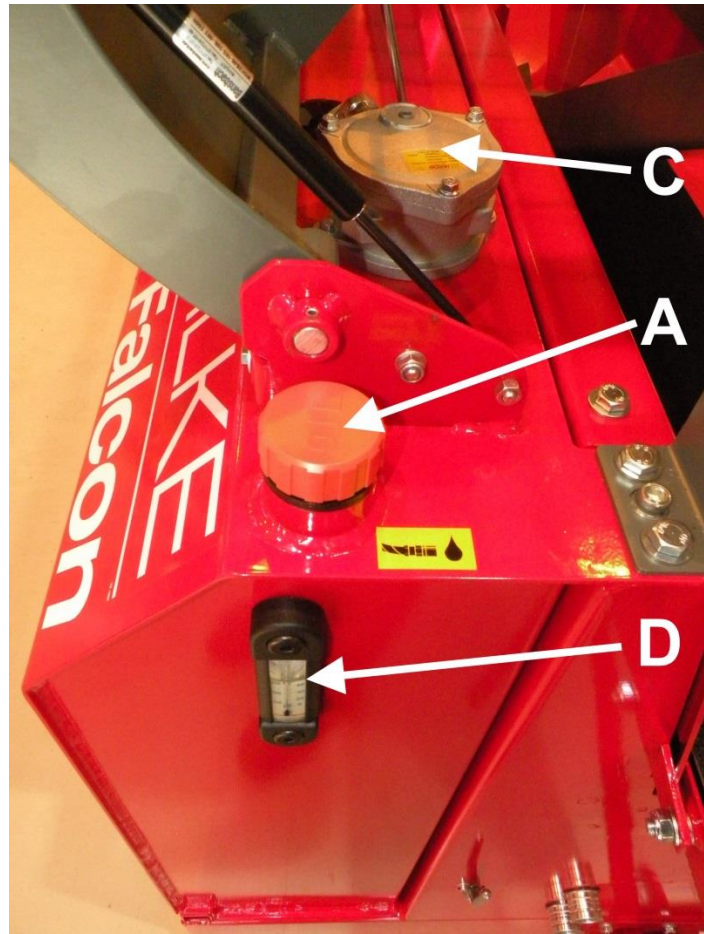

Figure 28.
2. Open filler cap A of the hydraulic oil tank in Figure 28 (this will allow the oil to drain more easily).
4. Open the cover of hydraulic filter C in Figure 28 and replace the filter.
6. Finally, ensure that the oil level settles at the halfway point of gauge D in Figure 28.